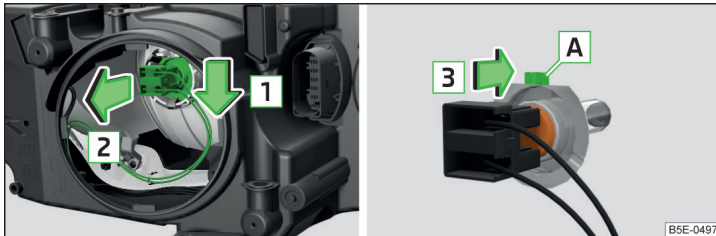

Fig. 225 Headlight with halogen bulb: Bulb for low beam
- Disconnect the connector with the light bulb in the direction of arrow **1** » Fig. 225.
- Insert the connector with the new bulb so that the fixing lug **A** » Fig. 225 fits the bulb into the recess on the reflector.